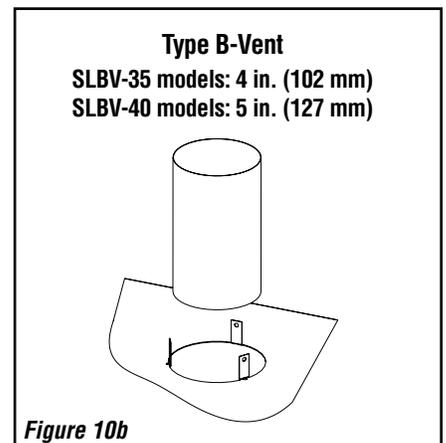

Figure 10b
2. Connect the proper size Type B-vent system to the fireplace flue collar by bending up the three tabs and securing with three sheet metal screws (No. 8 or larger) bend up tabs. See **Figure 10b**. Then install the remainder of the Type B-vent to the outside.